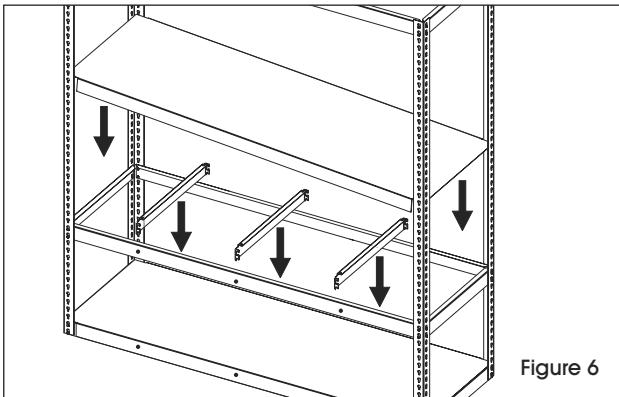

Figure 6
6. Attach front/back supports at the desired next level. Attach shelf supports, then lay the steel shelf on the shelf supports. (See Figure 6)